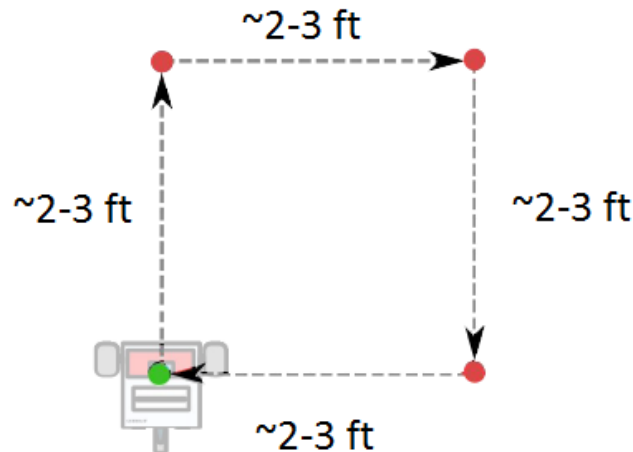

Figure 11: Square Robot Motion
1. Write a program to move the robot in a square path with sides specified in the function (see Figure 11).